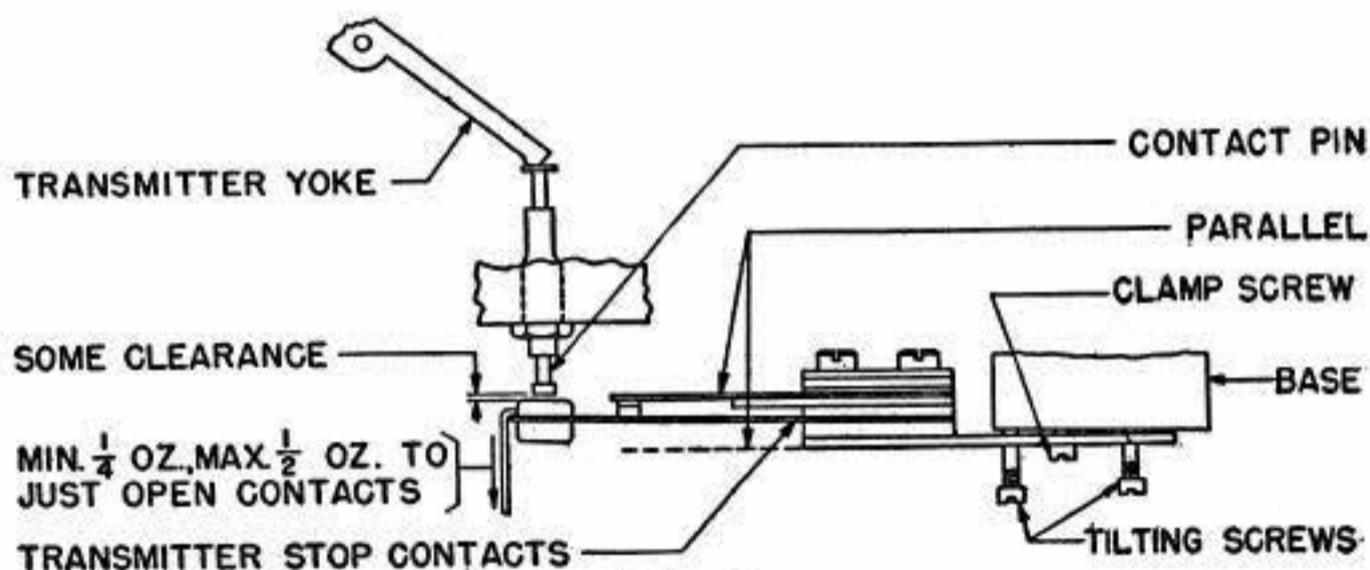

Fig. 70
- (a) With the short contact spring tensioned against its backstop and aligned so that it is parallel to its mounting bracket, it should require a pull as indicated in Fig. 70 to just open the contacts. **Fig. 70**
(1) To gauge, hook the pull end of the scale over the end of the long-contact spring and pull at right angles to the spring mounting.
(2) To adjust, bend the long-contact spring.
- (b) With a length of perforated tape emerging from the code-punch mechanism and engaged in the pivoted transmitter, the contact should be closed with some clearance between the insulated tip on the long-contact spring and the lower end of the contact pin when the next to the last character on the tape is being sensed by the selector pins. With the last character in the tape being sensed, the contacts should be open and there should be Min .010" clearance between the contacts. **Fig. 70**
(1) To adjust, loosen the contact-assembly-bracket clamp screw and position the bracket by means of the two tilting screws. Tighten the clamp screw and remount the tape chute.